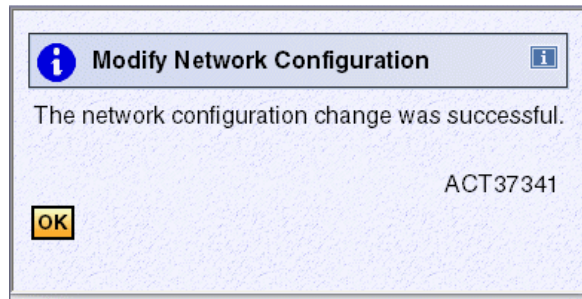

Figure 13-13 Network Configuration - Define roles success (SCZP201)
5. Confirm by clicking **Yes**. This displays the Modify Network Configuration, message Message ACT37341, indicating that the change was successful (Figure 13-13).